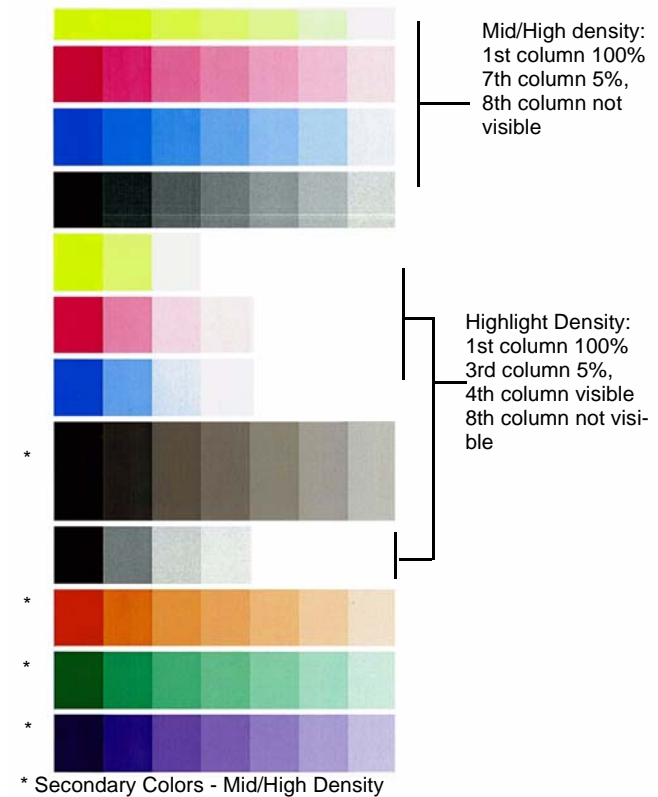

Figure 1 Color Test Pattern
8. Examine the printed test pattern (Figure 1). Compare the output to the Color Test Pattern. Check the density and color shift of the medium/high density areas, and the reproduced density and color shift of the highlights. If a problem is detected, perform the Adjustment.